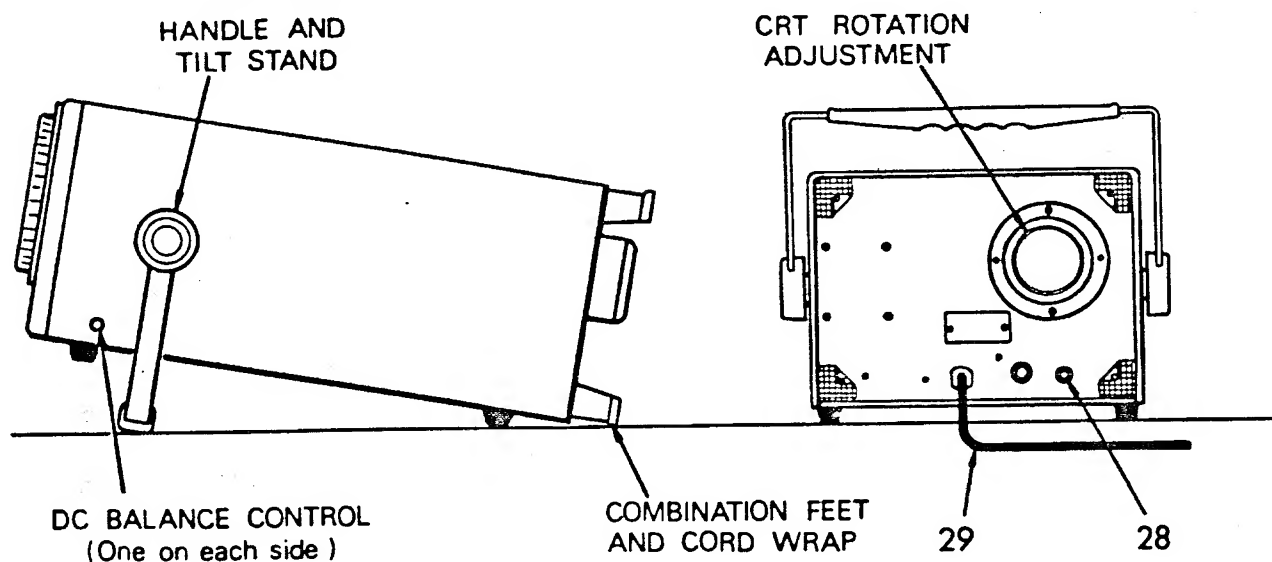

Fig. 2. Rear and side panel facilities.
29. **AC Line Cord (See Fig. 2).** CSA-approved for oscilloscopes.